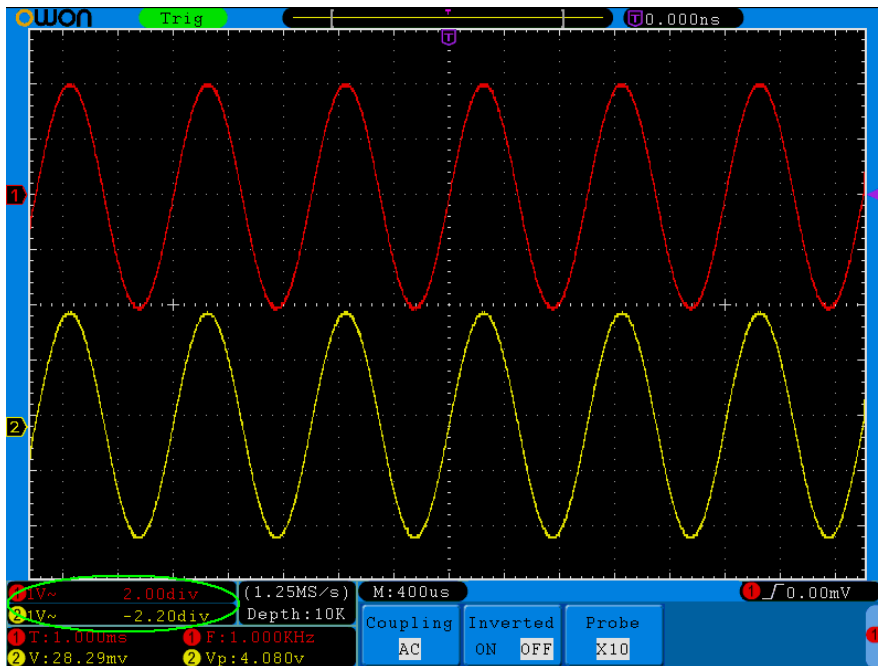

Fig. 5-12 Information about Vertical Position
3. When the vertical position of the channel waveform is adjusted, the changed value is displayed at the left bottom corner of the screen (see Fig.5-12).